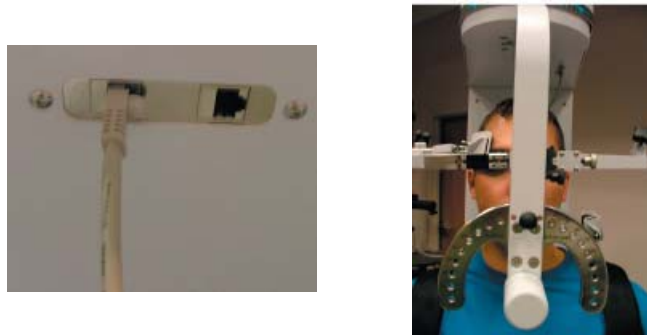

Figure 6-46. MCU™ RJ45 Jack and Final Isometric Lateral Set-up
Step 13. Attach the RJ45 cable to the head brace being used and the RJ45 jack that is closest to the front of the unit at the top of the MCU™ (Figure 6-46).